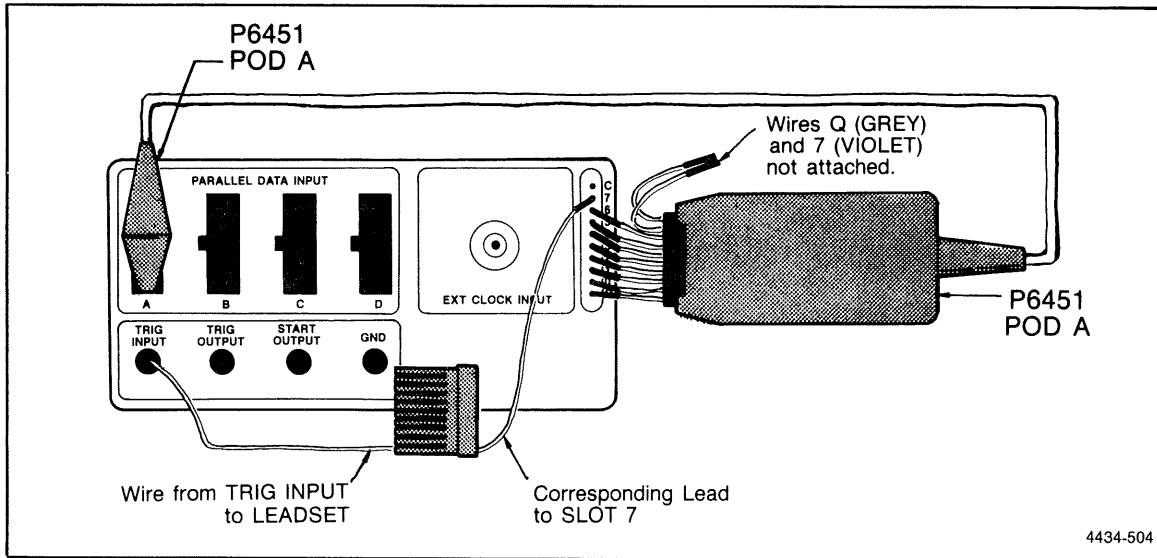

Figure 2-10. 318A External trigger check setup.
- a. Refer to Figure 2-10. Connect the data leads of the P6451 Parallel Data probe in Pod A to TEST OUTPUT as follows: